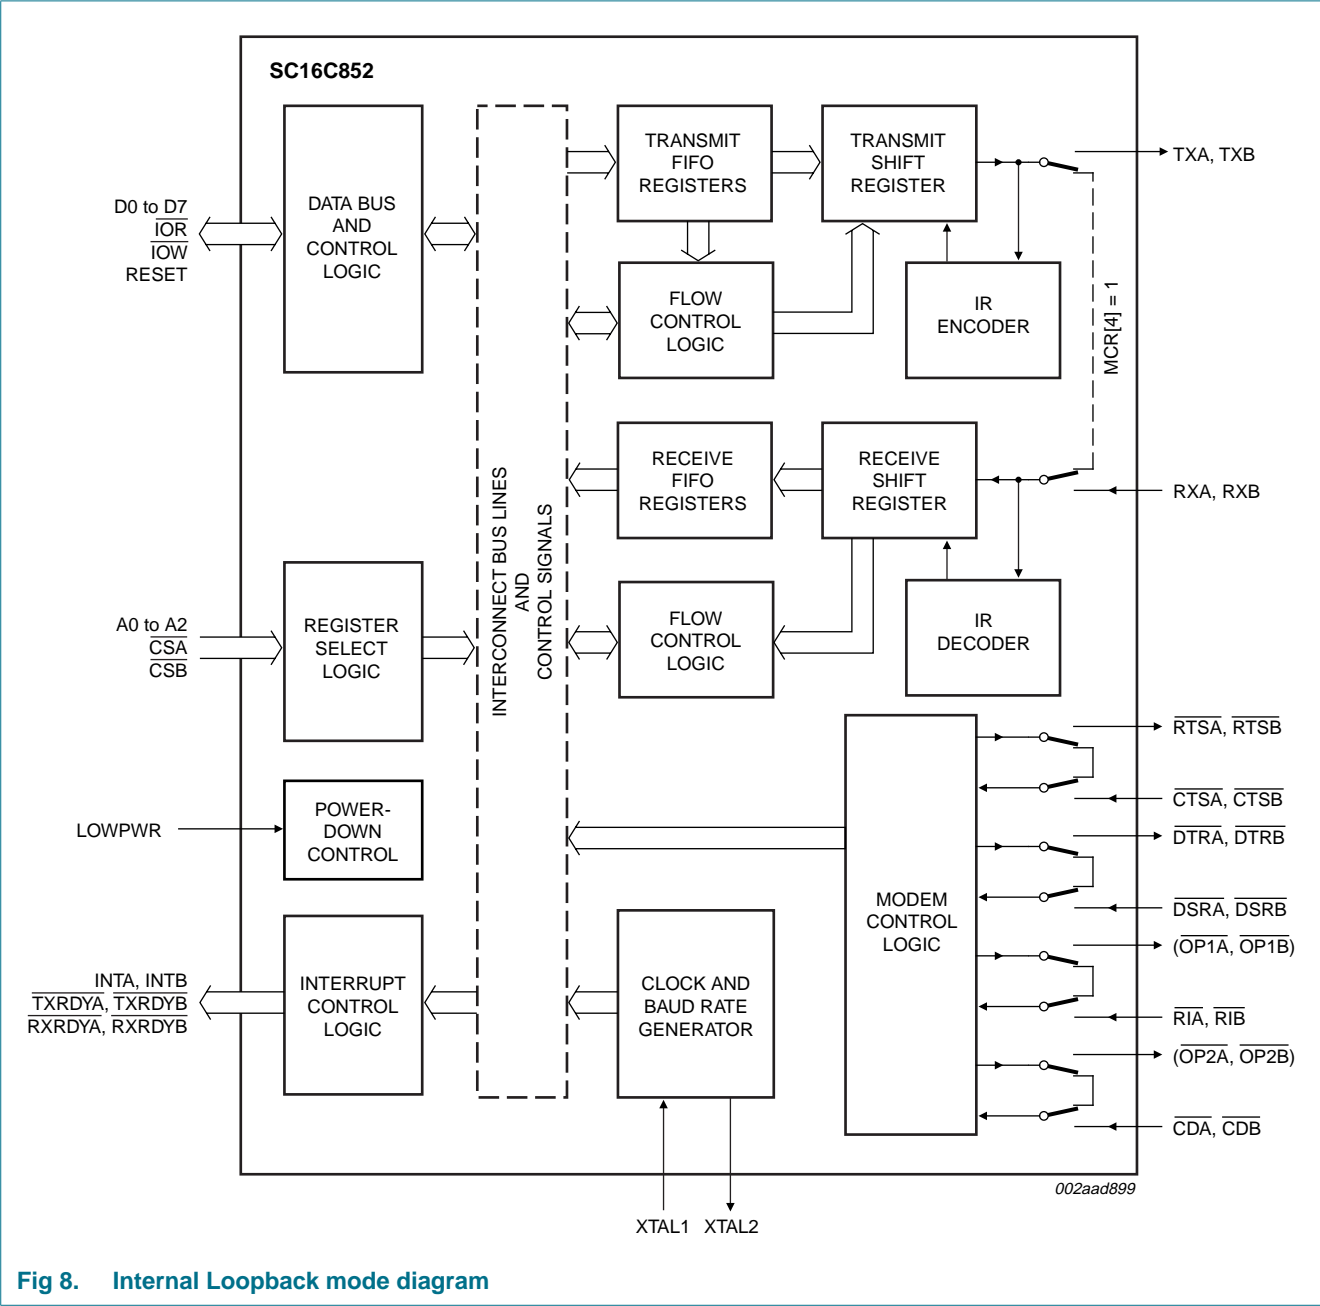

Fig 8. Internal Loopback mode diagram
The internal loopback capability allows on-board diagnostics. In the Loopback mode, the normal modem interface pins are disconnected and reconfigured for loopback internally (see Figure 8). MCR[3:0] register bits are used for controlling loopback diagnostic testing. In the Loopback mode, the transmitter output (TX) and the receiver input (RX) are disconnected from their associated interface pins, and instead are connected together internally. The  $\overline{\text{CTS}}$ ,  $\overline{\text{DSR}}$ ,  $\overline{\text{CD}}$ , and  $\overline{\text{RI}}$  are disconnected from their normal modem control input pins, and instead are connected internally to  $\overline{\text{RTS}}$ ,  $\overline{\text{DTR}}$ , MCR[3] ( $\overline{\text{OP2A}}/\overline{\text{OP2B}}$ ) and MCR[2] ( $\overline{\text{OP1A}}/\overline{\text{OP1B}}$ ). Loopback test data is entered into the transmit holding register via the user data bus interface, D[7:0]. The transmit UART serializes the data and passes the serial data to the receive UART via the internal loopback connection. The receive UART converts the serial data back into parallel data that is then made available at the user data interface D[7:0]. The user optionally compares the received data to the initial transmitted data for verifying error-free operation of the UART TX/RX circuits.